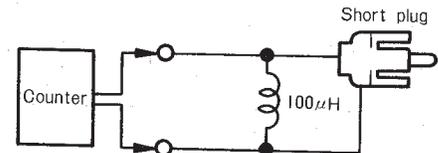

Fig. 28
- 3) Connect a measuring short plug to the CAL terminal and also a frequency counter (Fig. 28).